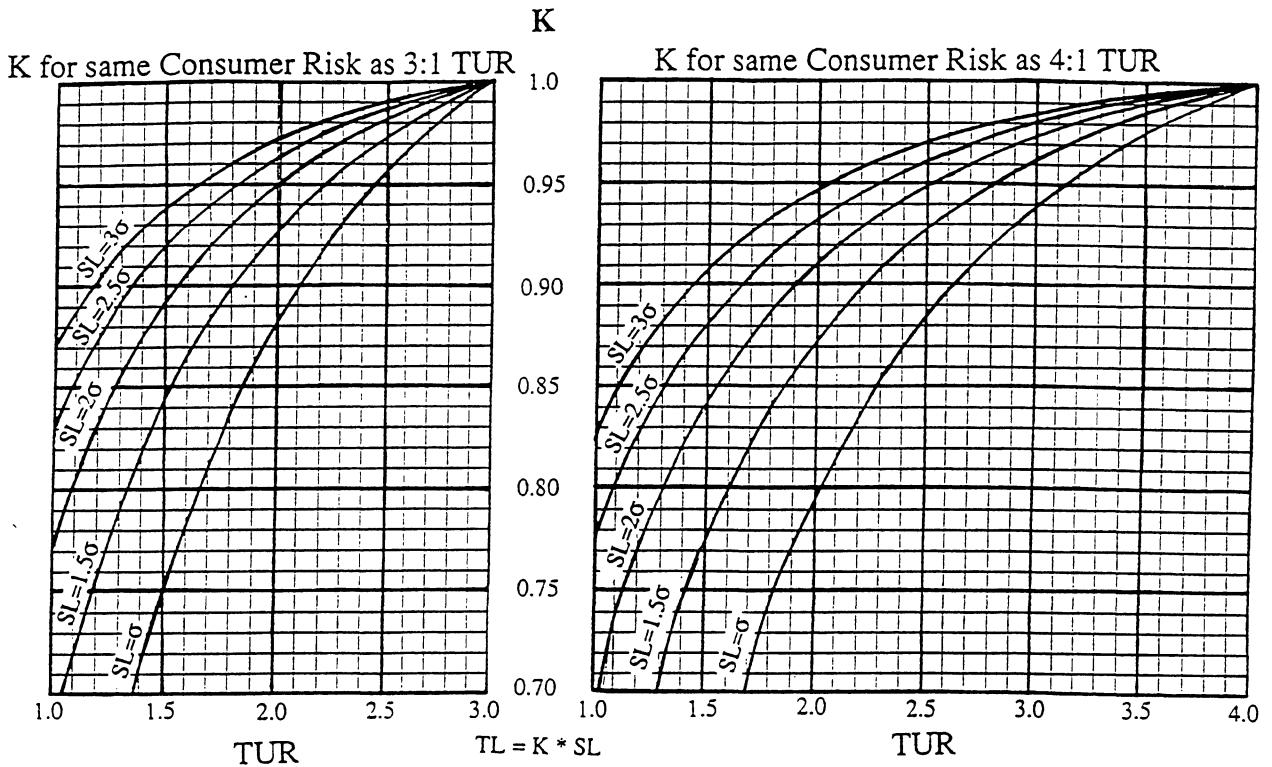
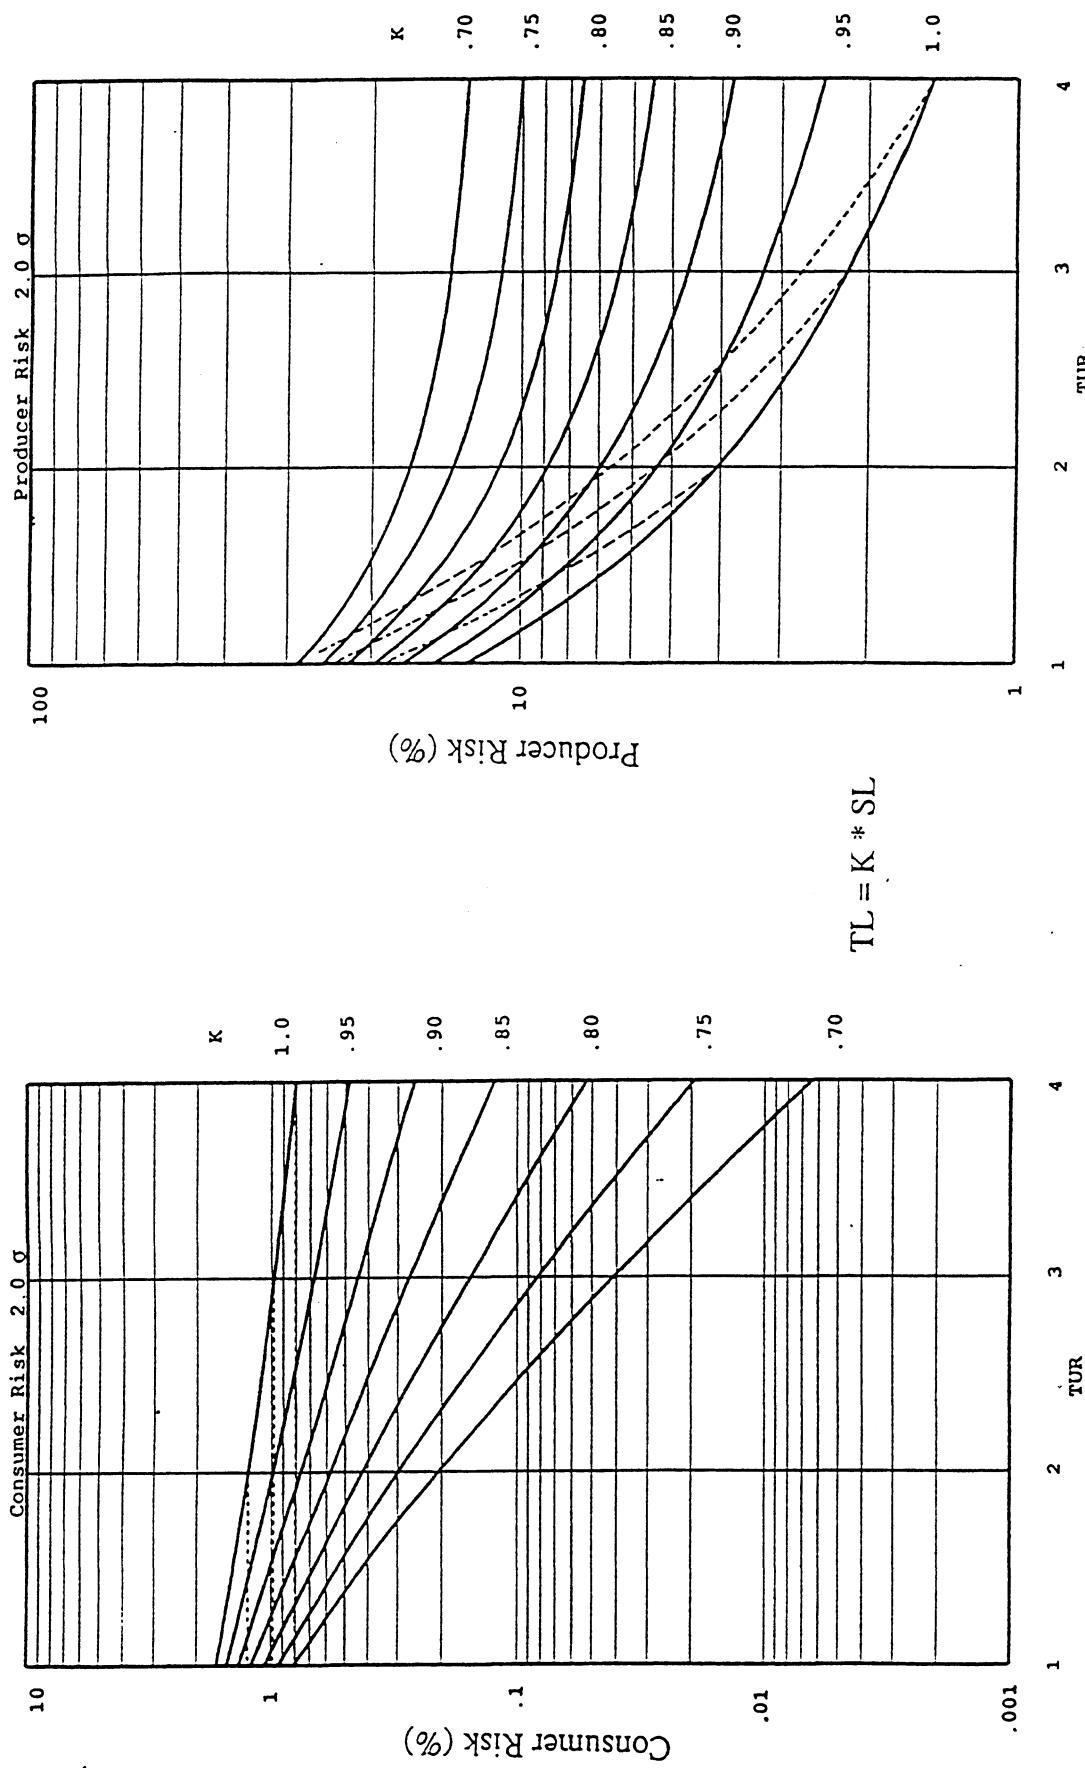

Fig. 11 Guardband Factors (K) to Maintain Consumer Risk at the Same Levels as with 3:1 and 4:1 TUR
Fig. 14 Consumer Risk and Producer Risk for $SL=2\sigma$
Fig. 11 shows, on a single chart, the guardband factors (K) for consumer risk held constant at the TUR=3 level and the TUR=4 level for specification limits from 1σ to 3σ . If it is desired to hold the consumer risk constant with declining TURs, Fig. 11 provides more resolution than the curves in Appendix A. However, Fig. 11 does not show the associated risks that are in the appendix.
A Cal Lab needs to verify that a piece of test equipment is within its specification of 100 ppm. It would like to use a standard with a TUR of 4:1. However, the most accurate standard it has is specified at 50 ppm. If it is assumed both pieces of equipment are specified at an uncertainty of 2σ , this results in a TUR of only 2:1. Referring to Fig. 14 in Appendix A, it can be seen that the consumer risk for a 4:1 TUR is 0.8%. Moving left horizontally keeps the consumer risk constant at 0.8%. At a TUR of 2:1 we can interpolate to obtain a K of 0.91. Thus, setting a TL of 91 ppm will ensure that no more defective units will be accepted than with a 4:1 TUR. This result could be obtained from Fig. 11 as well.
Assume the specifications of the UUT and STD are to a 2σ confidence level. From Fig. 11, it can be seen that a $TL=0.95*SL$ should be specified. From Fig. 14, Appendix A, the confidence level being maintained can be seen to be about 99% (100% - 1% consumer risk).
MathCAD calculations for Consumer Risk, Fig. 14